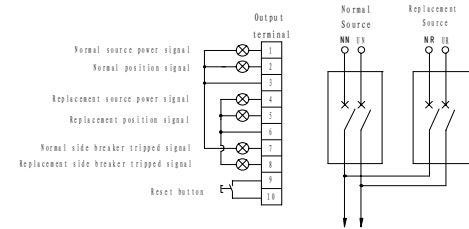
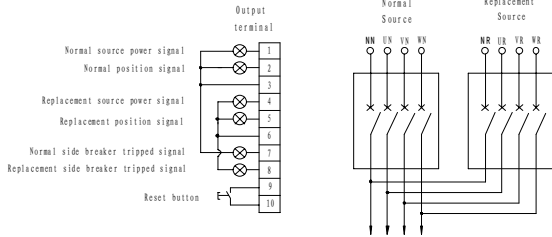

Fig.4 Two Poles ATNS with A type Controller
Fig.6 Four Poles ATNS with A type Controller
- State indication of Normal power source, Replacement power Source ,breaker closed and breaker failure trip are provided. For ATNS with A type controller, these signal (with Power)are provided to customer by output terminal, you can use these output signal according Fig.4—Fig.6, It should be notice that No.9 and 10 is to connect with a reset Button only for "Self-transfer and reset-return" recovery mode, other bits is optional for customer to connect with lamp or relay outside.